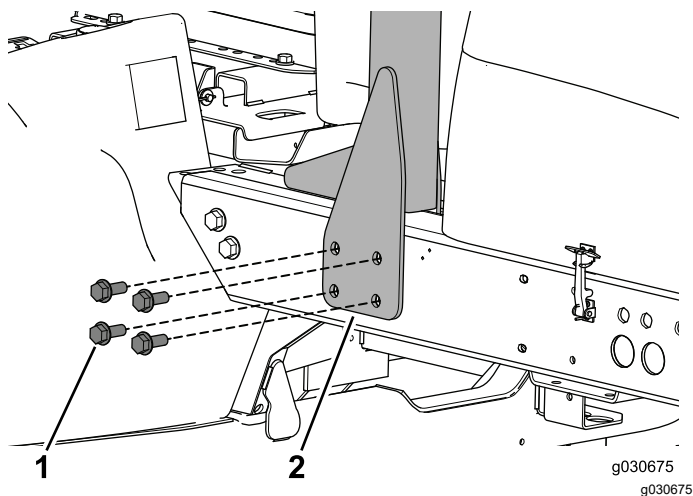

Figure 8
1. Remove the bolts securing the roll bar to the left side of the machine (Figure 8).